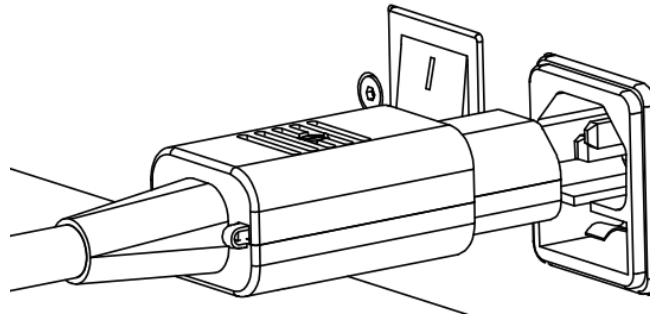

Figure 4-6 Power cord connection interface
Step4.Connect the power cord to the control cabinet: Insert the power cord plug into the power cord connection port of the control cabinet (see Figure 4-6).